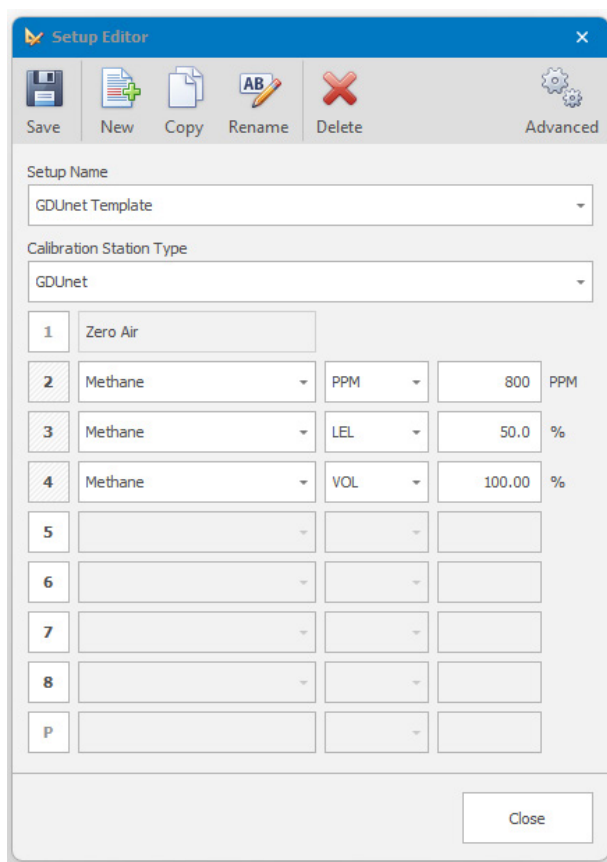

Figure 3-15: Setup Editor
4. Ensure 'GDUnet' is selected in the *Calibration Station Type* drop-down list (as illustrated in Figure 3-15).